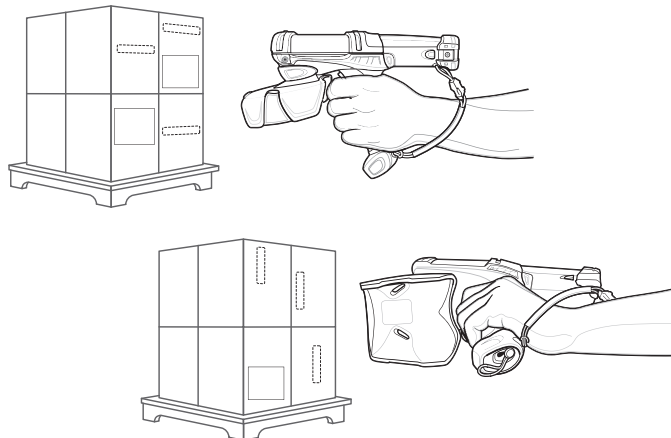

Figure 2-19. RFID Class 0 / Class 1 Tag Reading
3. Position the mobile computer horizontally or vertically (as shown in Figure 2-19), depending on the orientation of the tag.